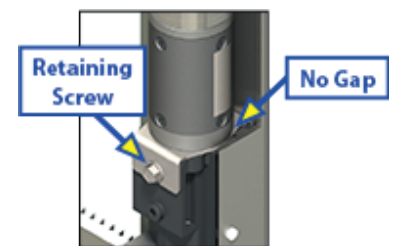

Fig. 9
5. If not equipped with a retaining spring, use a 5/16" open-ended wrench or ratcheting box wrench to loosen the motor retaining screw (**Fig. 9**) one to two rotations. **DO NOT remove the motor retaining screw.**
- B. Torquing the motor retaining screw to 40 in-lbs (**Fig. 9**) with the motor retainer fully engaged.